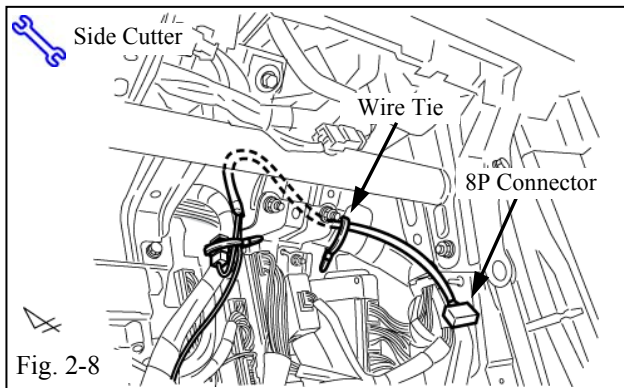

Fig. 2-8
- (i) Route the V5 Harness toward the right side of the Glove Box area securing it to the Vehicle Harness with 1 Wire Tie. (Fig. 2-8)